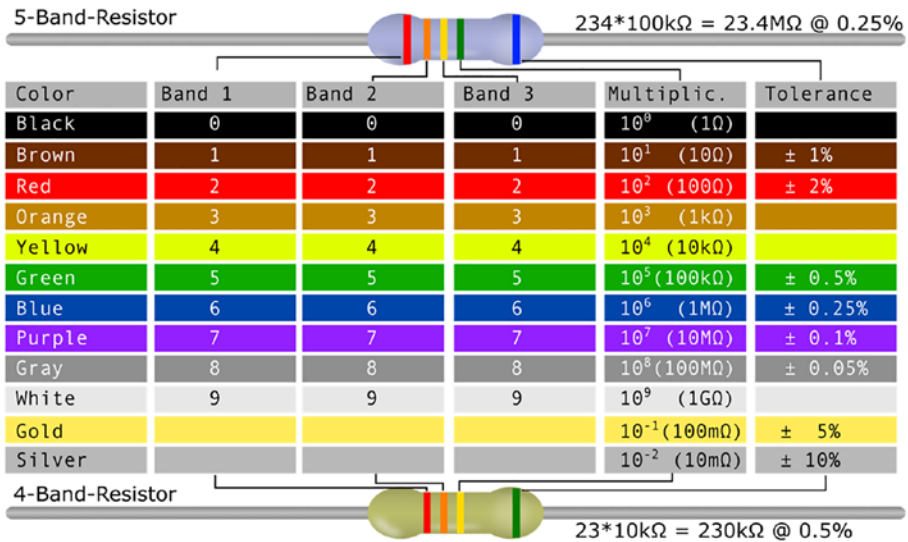

Figure 7-1. Resistor color codes³
Resistors create electrical resistance in a circuit and are the most common component we will use in a circuit because their main job is to prevent too much power from being absorbed by other components. Through-hole resistors are identified using the International Electrotechnical Commission (IEC) standard 60062 RKM codes; these read from left to right with three or two bands of color codes, another optional band to the right is a multiplier, and a metallic-colored band on the rightmost end indicates tolerance as a percentage. The way I remember the number of the color codes is starting with black (0) and brown (1), then going through red (2), orange (3), yellow (4), green (5), blue (6), violet (7), and then gray (8) and white (9). Put simply, you have black (0) and brown (1) and then the colors of the rainbow less indigo, ROYGBIV, then gray (8) and white (9). The multiplier band uses the same order of colors to represent the multiplier as 0, 10, 100, 1k (1000), 10k, 100k, 1M (1,000,000), 10M. Using these codes, you can calculate the value of a through-hole resistor by reading the color codes from left to right, then applying the multiplier band to the right (see Figure 7-1).